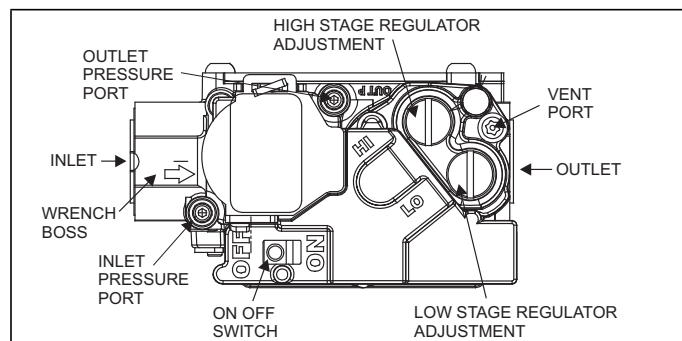

FIGURE 42: Gas Valve
Inlet and manifold gas pressure may be measured by connecting the "U" tube manometer to the gas valve with a piece of tubing. Follow the appropriate section in the instructions below. Refer to Figure 42 for the locations of the pressure ports on the gas valve.
Connect the positive side of the manometer to the OUT P Tap on the gas valve. Do not connect any tubing to the negative side of the manometer, as it will reference atmospheric pressure. Refer to Figures 42 and 43 for connection details.
This gas valve has separate regulator adjustment screws for high fire and low fire, as shown in Figure 42. The procedure below is used to adjust either the high fire manifold pressure or the low fire manifold pressure.
1. Refer to Figure 42 for location of pressure regulator adjustment cap and adjustment screws on main gas valve.
3. Place jumper wire from W1 to W2 to R on the furnace control board for the furnace to operate HIGH fire. Once correct manifold pressure is set (HI), remove jumper from W2 for the furnace to operate on low fire. Set the manifold pressure (LO) to correct manifold pressure.